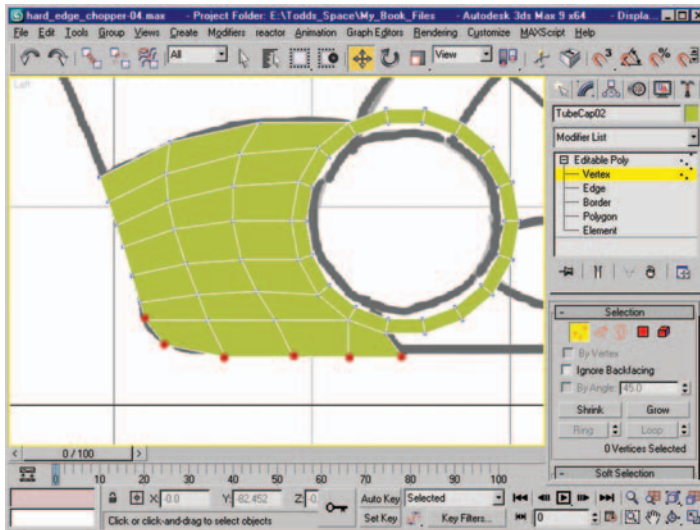

Figure 8.7 Vertices after using the Move tool to adjust their position.
8. Using the Move tool and toggling transparency, move the new vertices so they conform to the shape in the underlying blueprint. Figure 8.7 shows the resulting mesh after moving vertices.